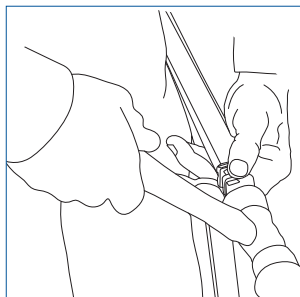

Fig. 2
1. Using the mallet, pound in the leveling foot insert (PART 6) (Fig. 2)